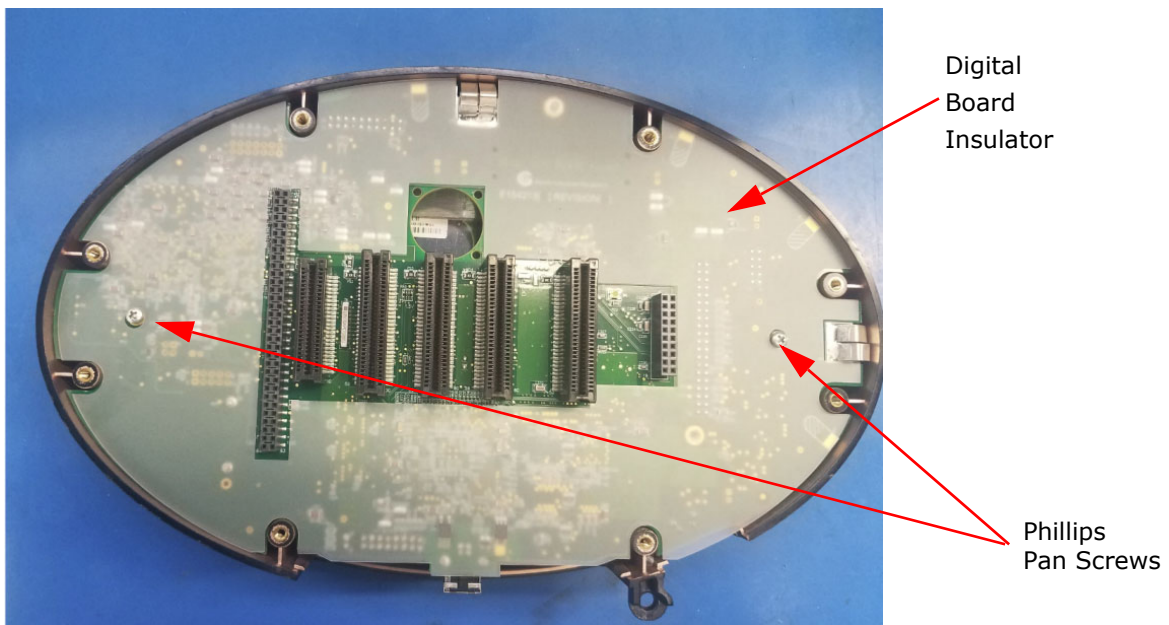

Figure 3-10: Inside of Meter Showing the Digital Board Insulator
4. Remove the digital board insulator - see Figure 3-10.
5. Remove the two Phillips pan screws used to mount the digital board on the front panel. See Figure 3-10